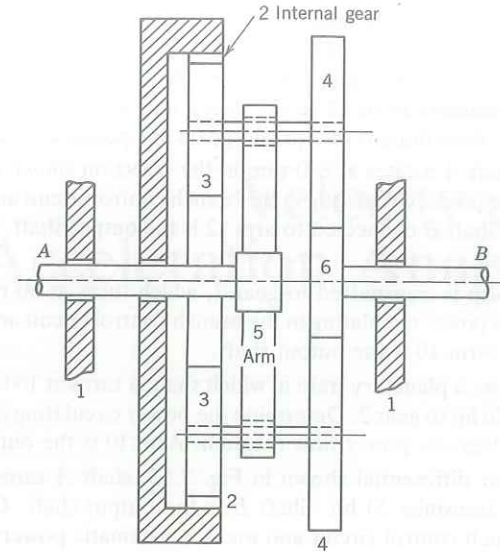

FIGURE 7.52
7.45. Design the smallest possible four-gear planetary train with a fixed annular gear as in Fig. 7.52 to reduce an input of 265 rpm to 15 rpm. Indicate which shaft is chosen as the input. Specifications required gear 2 to have 150 teeth. Available stock sizes are as follows: even tooth numbers from 12 to 40, every four from 40 to 100, and every five from 100 to 150. Also determine if two planet gears are possible as shown.